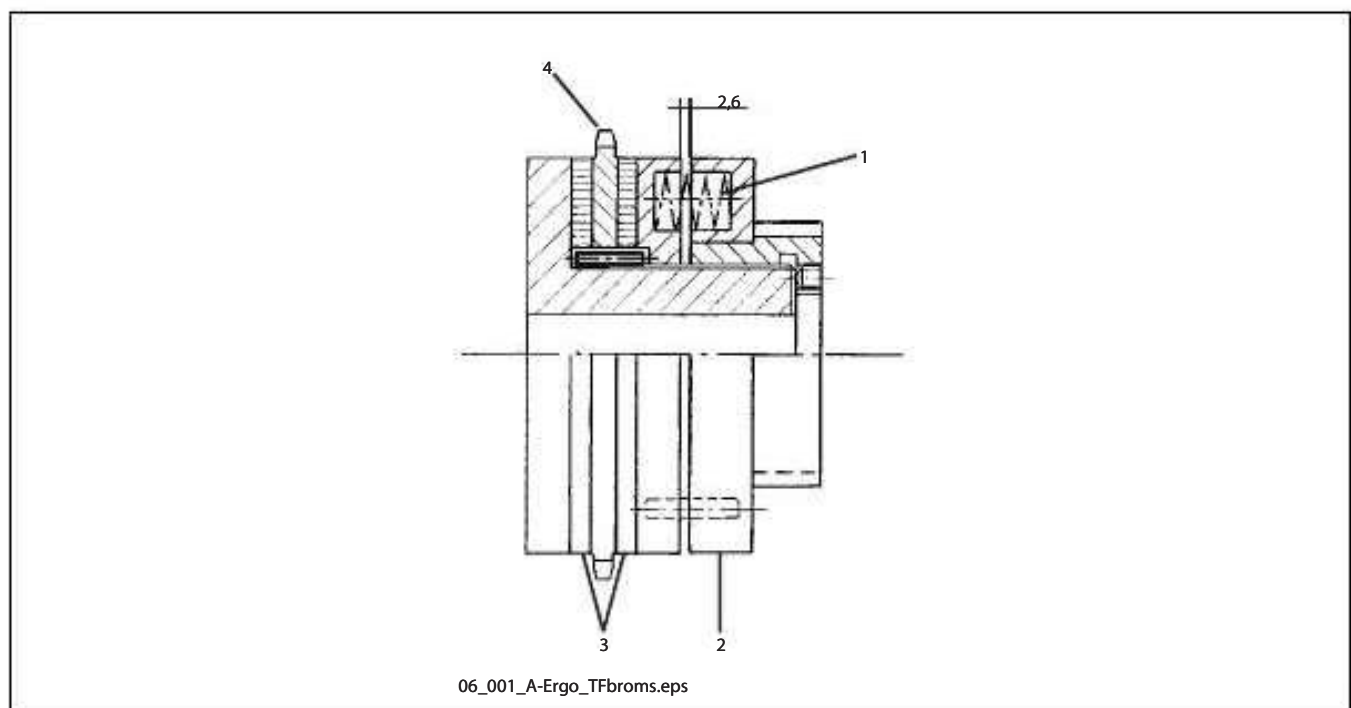

**Figure 6.4** Overload clutch
The torque that the overload clutch can transfer is limited by the force the pressure springs, pos. 1, transfer to the pressure plate, pos. 2, and the brake linings, pos. 3, to the sprocket, pos. 4, (see figure 6.4). For adjusting instructions, see "Adjusting the overload clutch (TF)" on page 6.32.